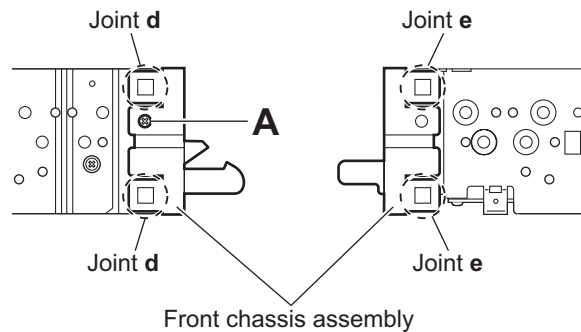

Fig.3
3.1.3 Removing the front chassis assembly (See Figs.3)
3.2.2 Removing the connector board (See Figs.3 to 5)